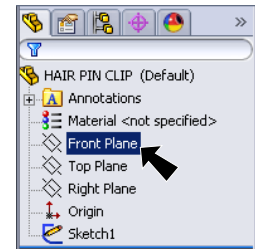

Fig. 18
Step 2. Click **Front Plane**  in the Feature Manager, **Fig. 18**.